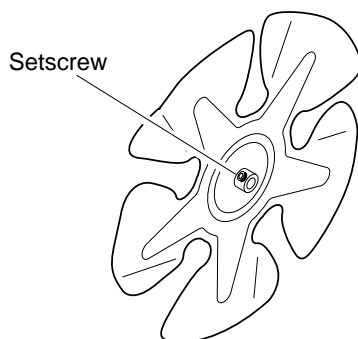

Figure 15 - Setscrew Location
3. Use hex wrench to loosen set screw that holds fan to motor shaft (see Figure 15).